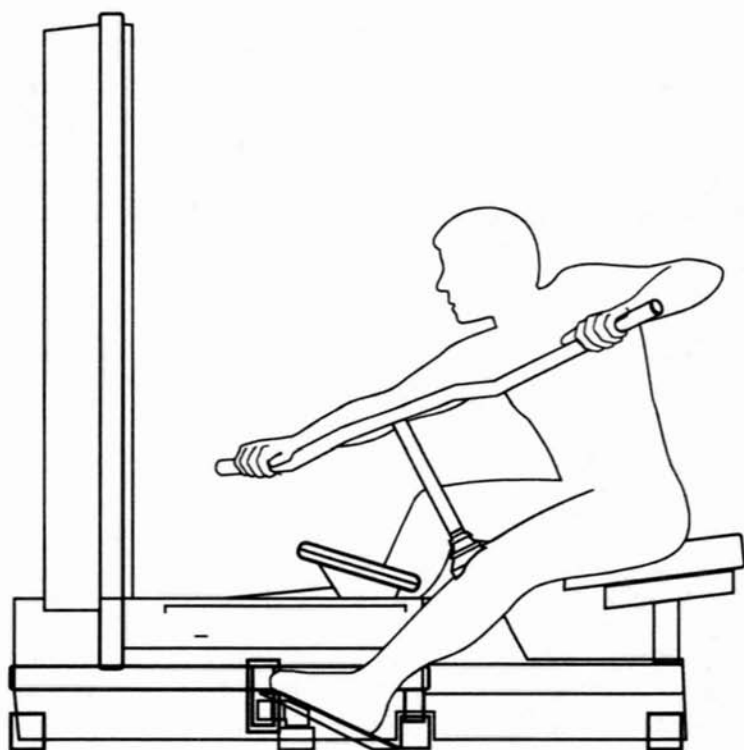

Figure 2: Exercise Motion
10. Begin exercising by pulling downward and back with one arm while pushing upward and forward with the other arm (refer to Figure 2). Visualize paddling a kayak.